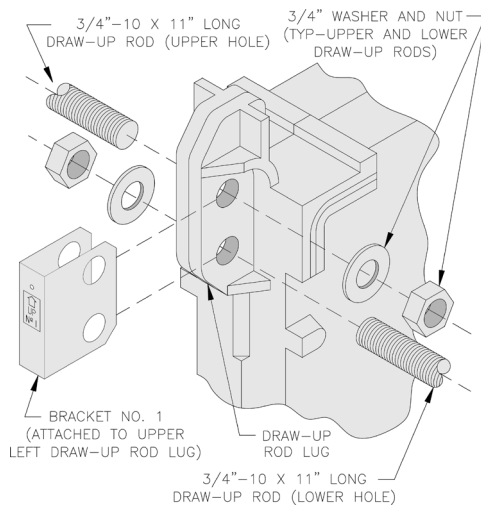

Figure 11: Bracket Placement
- ii. WHEN APPROPRIATE SECTION is being assembled to block, slide brackets over draw-up rod lugs prior to inserting draw-up rods, washers and nuts. To prevent the brackets from turning during the draw-up process, insert a large punch or draw-up rod through second hole in each bracket. Refer to Figures 11 and 12 for proper location of each bracket and typical attachment.